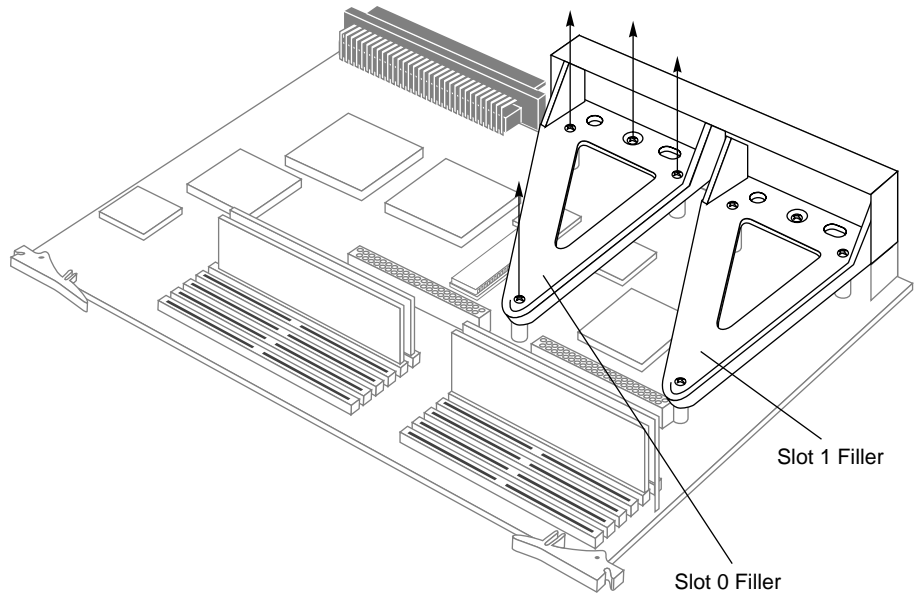

Figure 6 CPU Board with Option Slot Fillers
- Between the I/O panel (where the cable connections are) and the board's memory chips are two triangular, bracket-like structures referred to as option slot fillers, as shown in Figure 6.
- Remove the four screws from the option slot 0 filler that hold the filler to the CPU board, as shown in Figure 6.